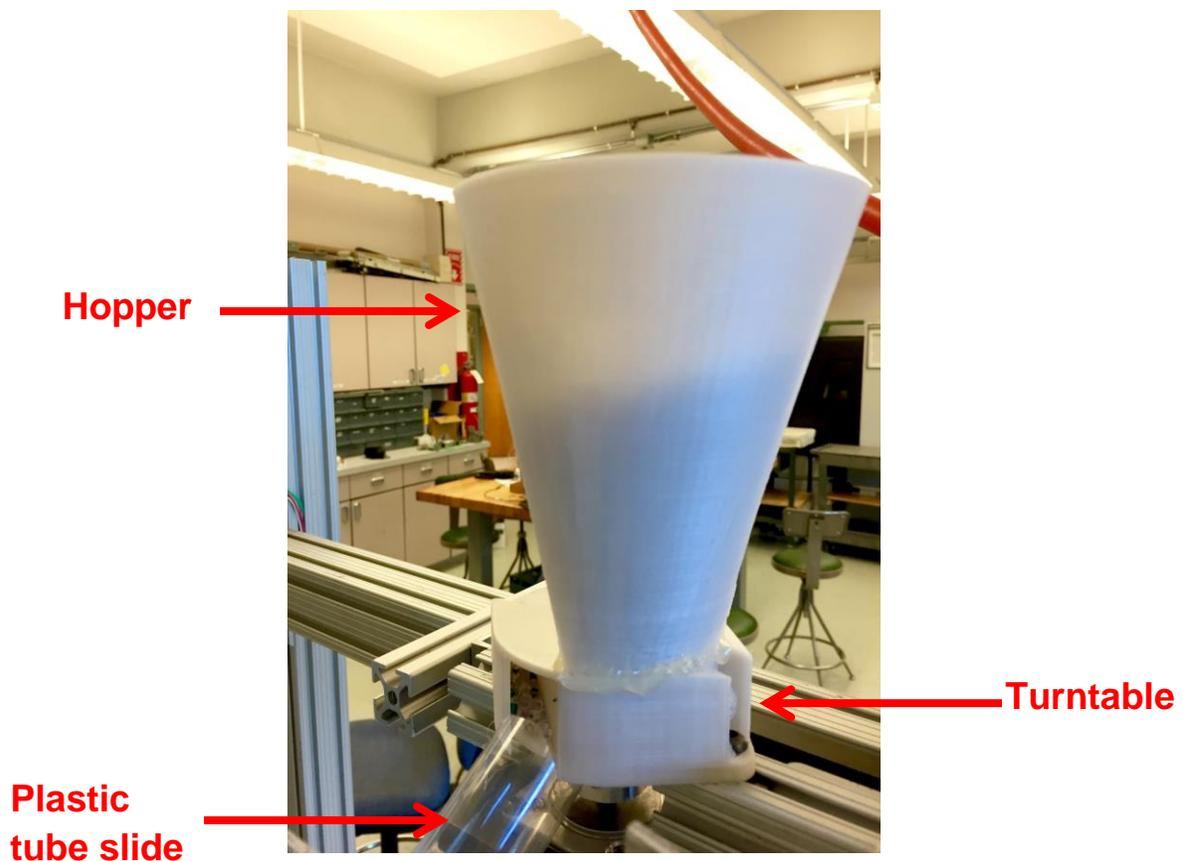
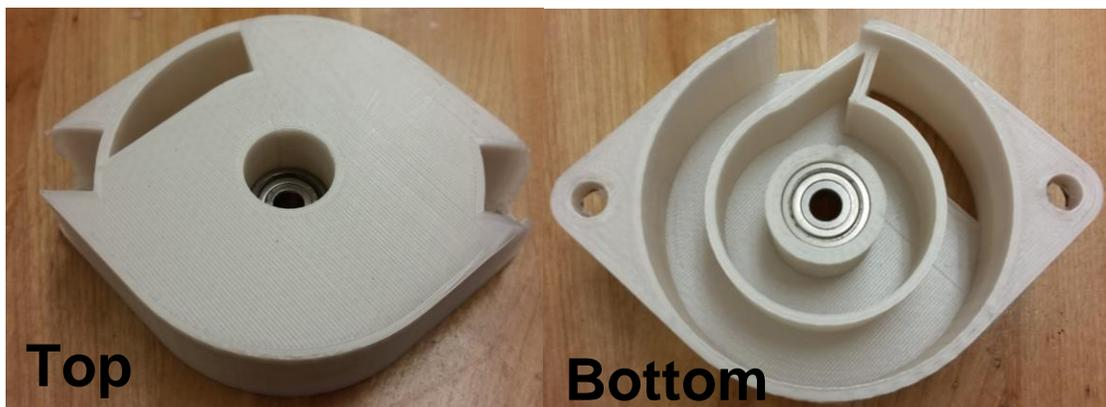
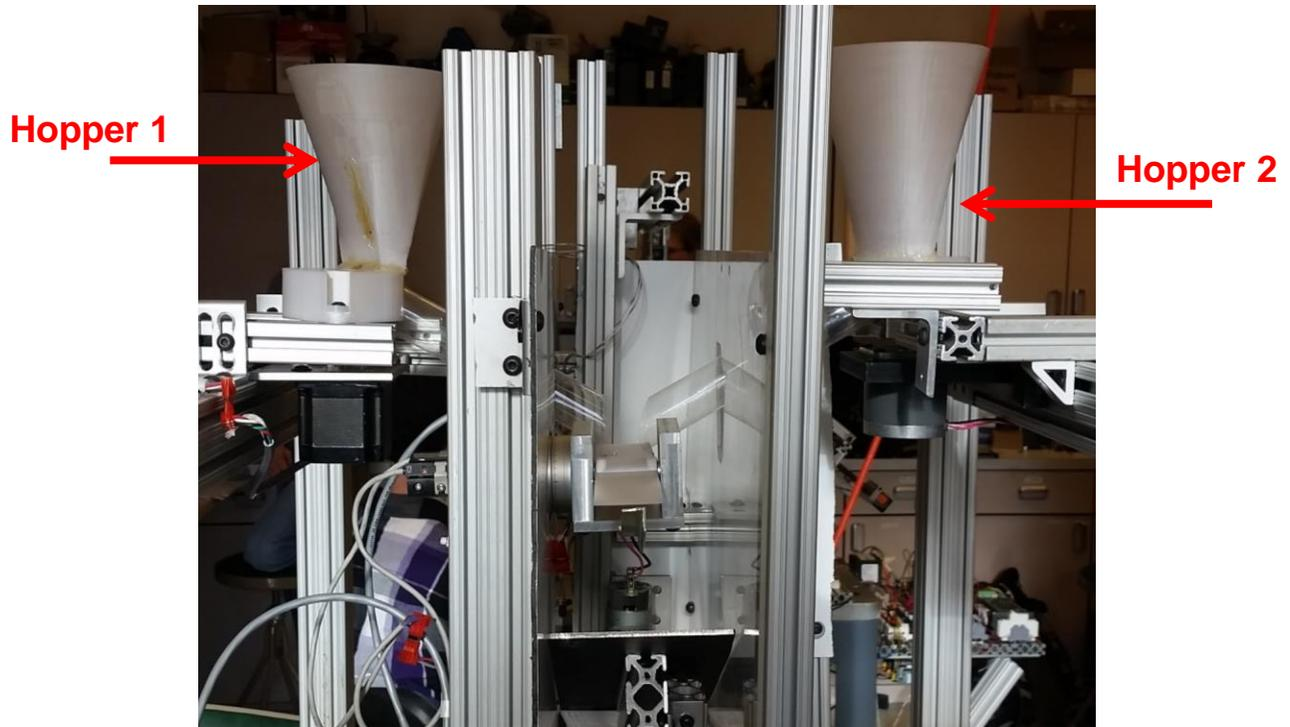

Figure 3. The Dispensing Station
Figure 4. Turntable.
Figure 5. Dispensing Station Layout.
- Table of Figures 3
- Figure 3. The Dispensing Station 6
- Figure 4. Turntable 7
The locations of the designated hoppers are shown in figure 5.
1. Ensure various plastics are loaded in their designated hoppers (see figure 5).
Figure 3 shows the 3D printed hopper and turntable mounted together. Figure 4 shows the dispenser without the turntable in place. In the right image (looking up from the bottom) you can see the path the pellets take from top to bottom. Figure 5 shows where each additive goes. Be sure to load the hoppers before use.